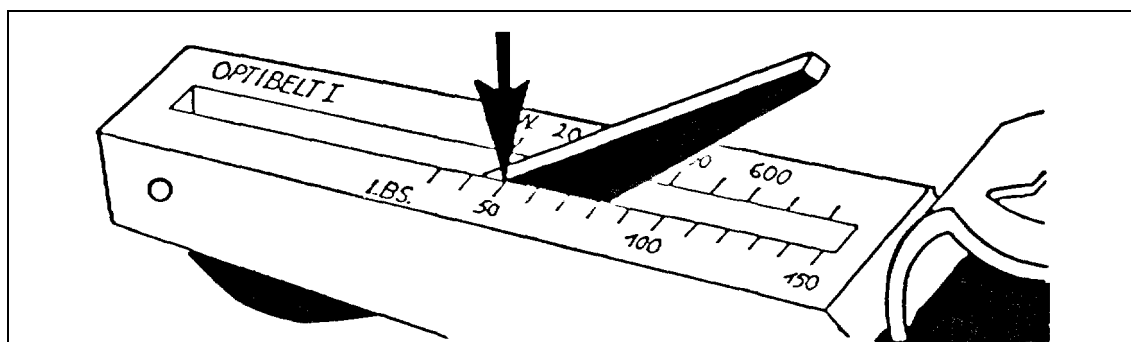

Figure 4.5.5
6. Remove tester carefully so that the indicator arm is not moved and read the belt tension where the top surface of the indicator arm crosses the scale as shown in Figure 4.5.5.